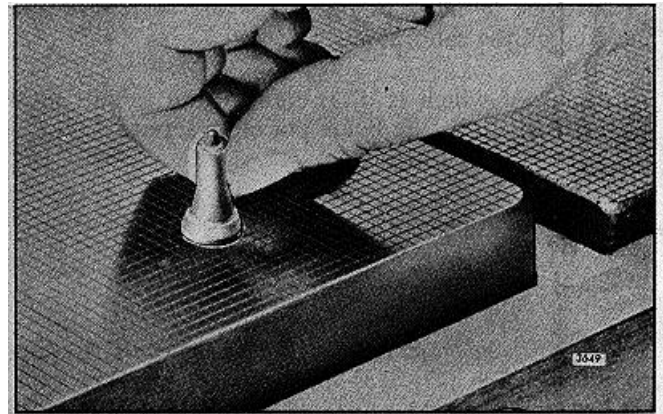

FIG. 33 - Lapping Spray Tip on Lapping Blocks J 22090
3. Place the part to be lapped flat on the block as shown in Fig. 33 and, using a figure eight motion, move it back and forth across the block. Do not press